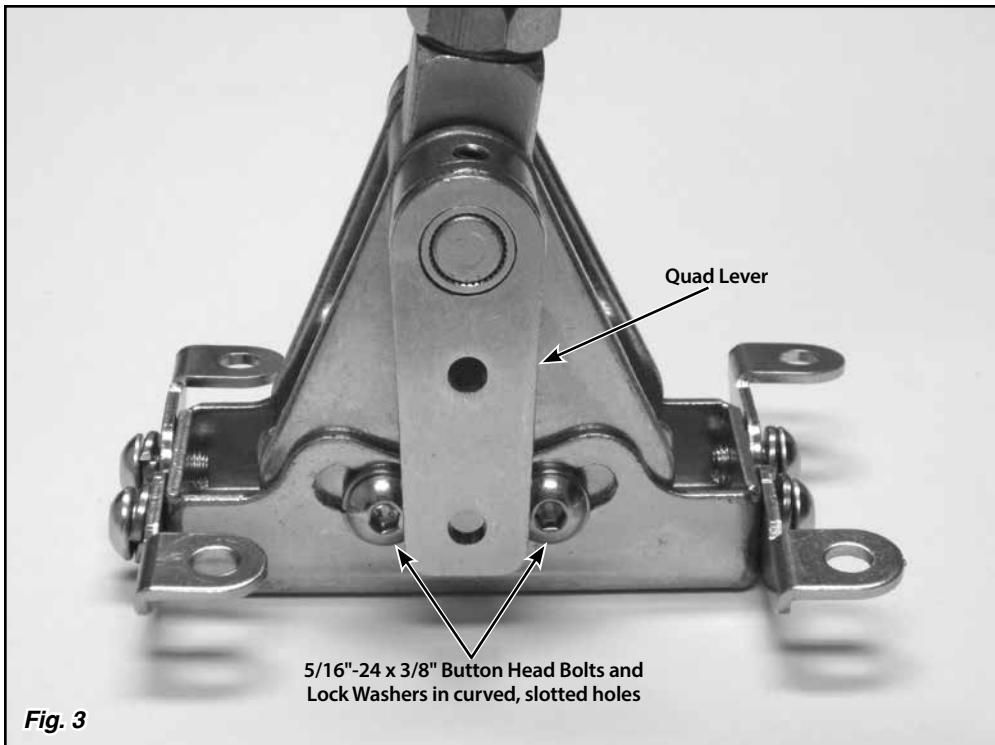

Fig. 3
Step 4: Make sure the two 5/16"-24 x 3/8" button head bolts that are in the curved, slotted holes in the left side of the floor mount mounting bracket are tight. Place the Shifter in the desired location on the vehicle's floor. Make sure the shifter lever will not interfere with the dash when in Park, or with the seat when in low gear. The shifter assembly may be tilted forward or backward if needed by loosening the two 5/16"-24 x 3/8" button head bolts that are in the curved, slotted holes in the left side of the floor mount mounting bracket. Retighten the button head bolts in the curved, slotted holes once you have the shifter assembly at the angle you want. **Fig. 3**